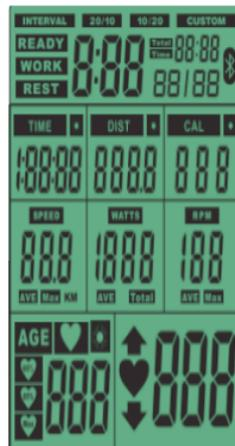
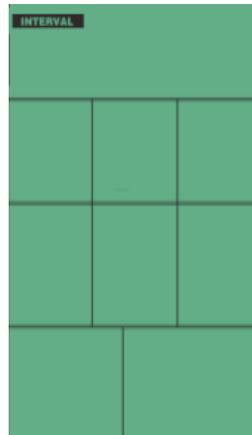

Fig1
Fig 2
1. After installing the battery (POWER ON), the LCD will display 2 seconds (Fig. 1) and a BI long tone at the same time, the wheel diameter value will be displayed 1 second (Fig. 2) in the DIST field,
2. **INTERVAL10/20**、**READY**、**WORK**、**REST**、**TARGET**、**TIME**、**DISTANCE**、**CALORIES**、**TIME**、**DISTANCE**、**CALORIES**、**WATTS**、**SPEED**、**RPM**、**HEART RATE** flicker for 1 second in sequence in SCAN mode (similar to Figure 2).